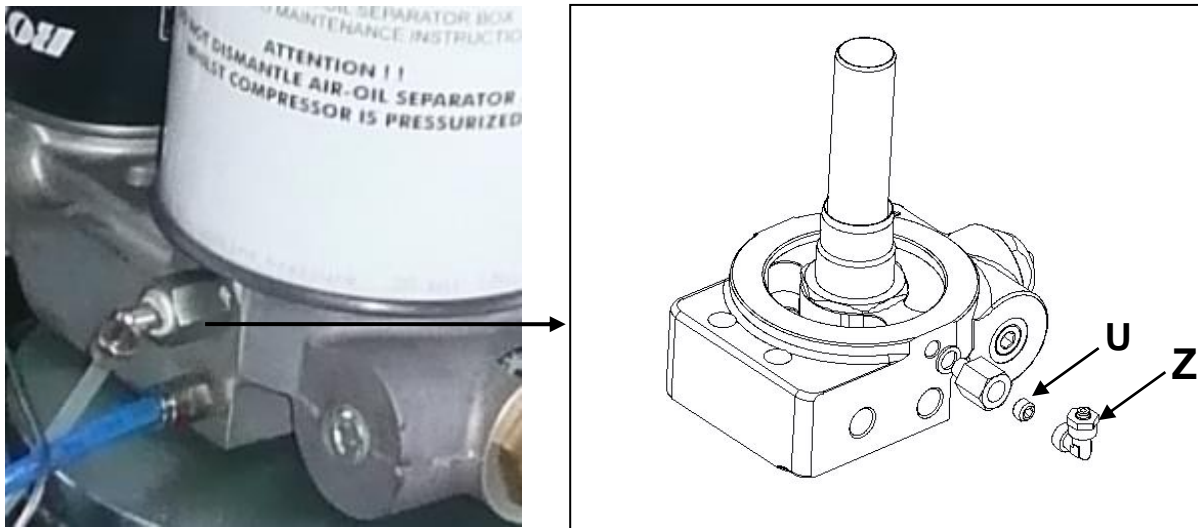

Figure 13.4-4 Nozzle oil recovery
Control and clean the oil recovery is to be performed, should you find a leak of oil mist mixed with air compressed, operating as follows (Figure 13.4-4).
- 1) Unscrew the fitting located at the center of the tank (Letter Z in Figure 13.4-4);
- 2) Inside the ring (Letter Z in Figure 13.4-4) is a nozzle (Letter U in Figure 13.4-4): make sure that its calibrated hole is not blocked (blow with compressed air);